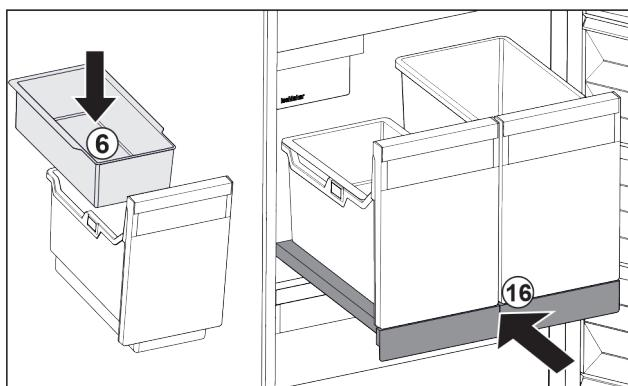

Fig. 103
- Insert hang-on tray Fig. 103 (6) for ice cubes.
- Slide in the pull-out board with container (IceTower). Fig. 103 (16)